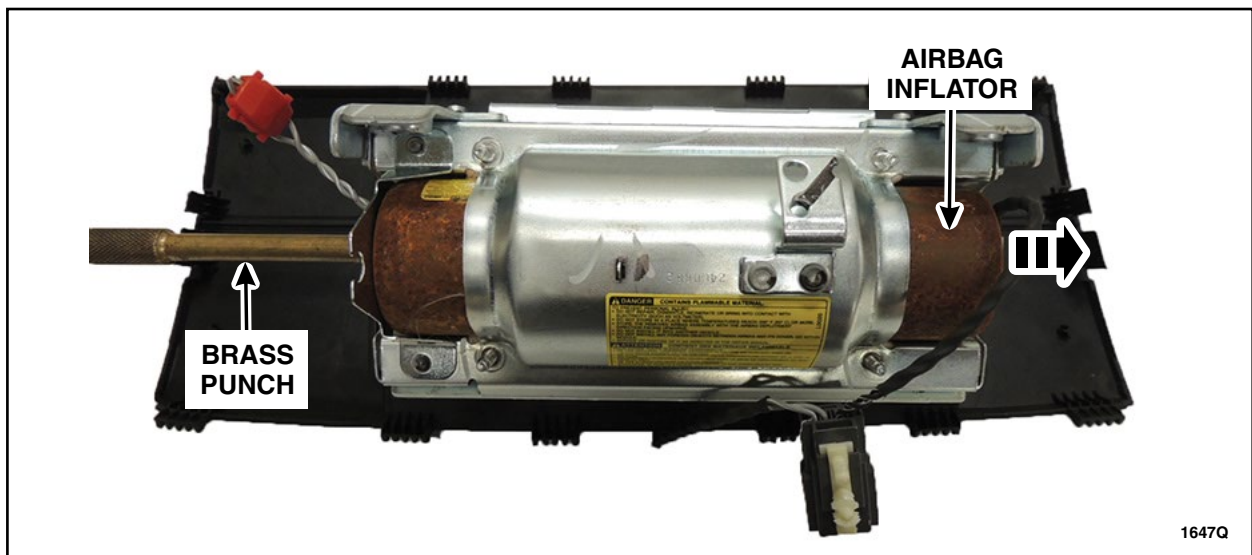

FIGURE 6
- With an assistant holding the passenger airbag assembly, remove the inflator from the assembly by pushing outward on the inflator. Set the airbag inflator aside for return shipping. See Figure 6.